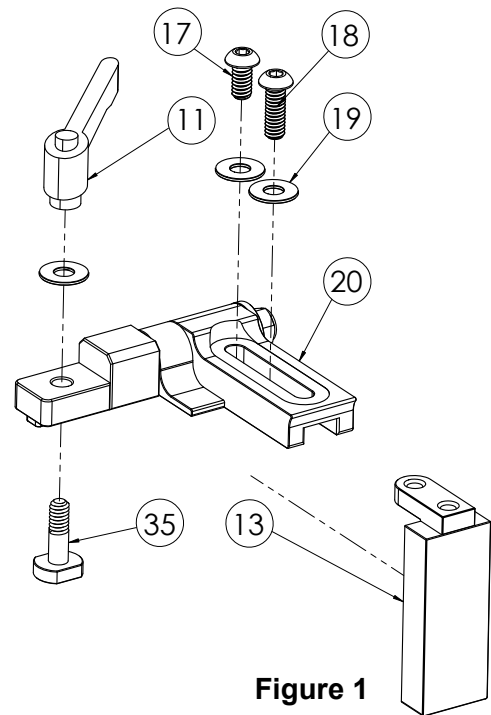

Figure 1
- a. Using the 5/32" hex key, attach the flip stop upper (Part #20) and the flip stop lower (Part #13) using (1) 1/4-20 x 1/2" button head cap screw (Part #17) and (1) 1/4-20 x 3/4" button head cap screw (Part #18) along with (2) 1/4" x 5/8" washers (Part #19). See **Figure 1**
- b. Attach the clamping handle (Part #11) along with (1) 1/4" x 5/8" washer (Part #19) to the flip stop assembly using the Flip Stop T-Bolt - Short (Part #35) as shown in **Figure 1**.